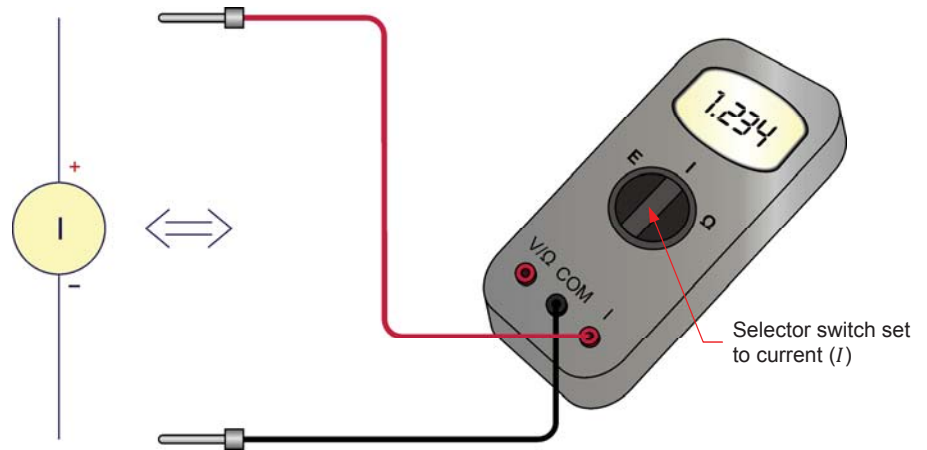

Figure 11. The multimeter is used as a dc ammeter.
Figure 11 shows a multimeter set to measure current (ammeter). The probe (usually red) connected to the I (current) terminal of the multimeter is the positive (+) terminal of the ammeter. The probe (usually black) connected to the COMMON (COM) terminal of the multimeter is the negative (–) terminal of the ammeter. The selector switch on the multimeter is set to current (I).